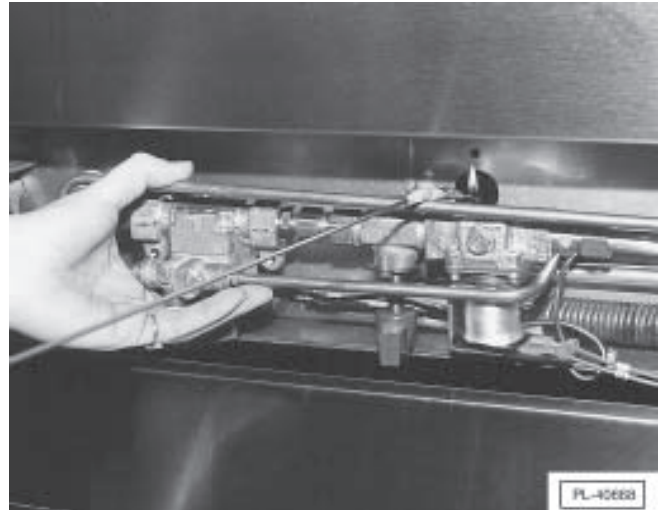

Fig. 22
3. Light oven pilot by depressing the reset button (Fig. 22) and, using a taper, ignite the pilot. Hold reset button in for 30 seconds or until pilot remains lit. Turn gas valve ON.